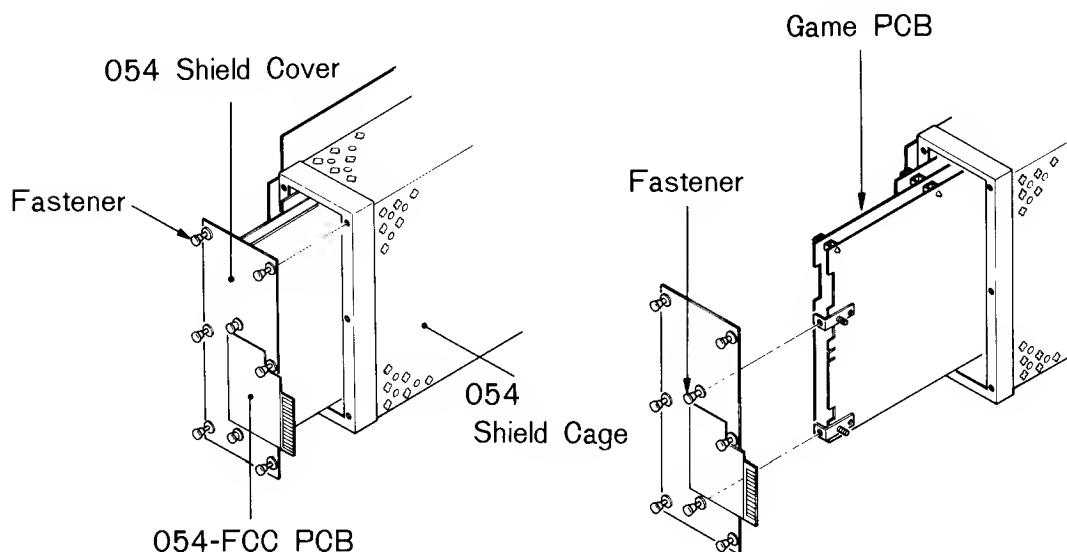

Fig. 13 Game PCB Removal
- (d) Pull out 6 Fasteners located on perimeter of the 054 Shield Cover. See Fig 13.
The Game PCB can be removed now. See Fig 13.
- (e) After servicing the Game PCB, shut the 054 Shield Cover completely with the Fasteners. See Fig 13.